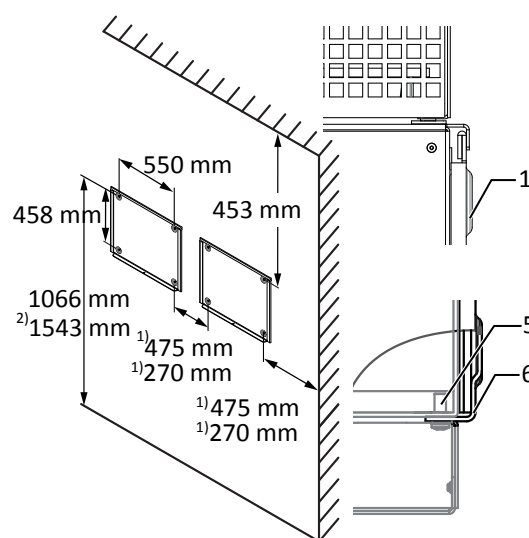

Fig. 17: Wall mounting
- Minimum clearances to be observed during installation: [See figure 17] [► Page 18]
2 Fit the device onto the upper mount by means of the mounting bracket. Fit the device onto the lower mounting bracket in full so that the device sits flush with its rear side on the mount ([See figure 17] [▶ Page 18]).